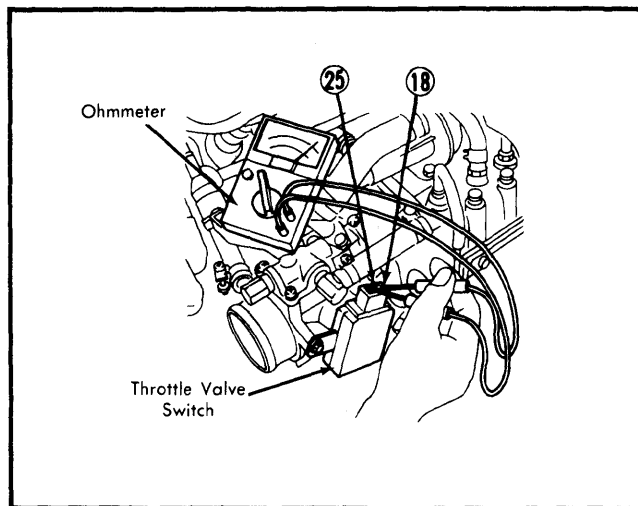

Fig. 5 Adjusting Throttle Valve Switch
2) Connect ohmmeter to terminal 18 and ground, then 25 and ground. See Fig. 5. No continuity should be present in either position. If present, repair short to ground in harness, or replace throttle valve switch.